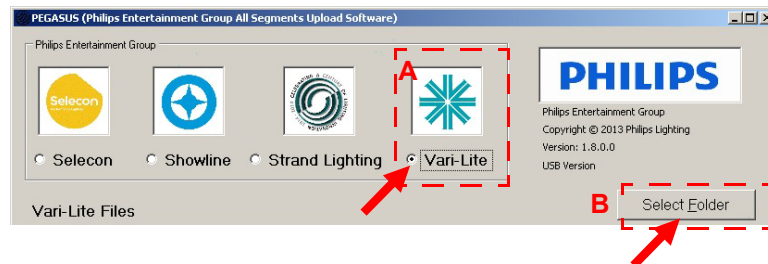

Figure 3-9: PEGASUS Software Selection Screen
- a. Select Vari-Lite for luminaire type (as shown in Figure 3-9).
- b. As indicated in Figure 3-9, click on Select Folder button to open browser window.